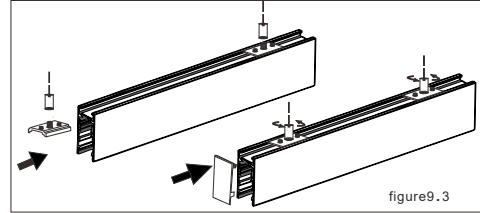

figure9.3
3. Install the hoisting line and fixing plate to the positioning mark on the track and check whether the fittings are firmly installed;(See Figure 9.3)